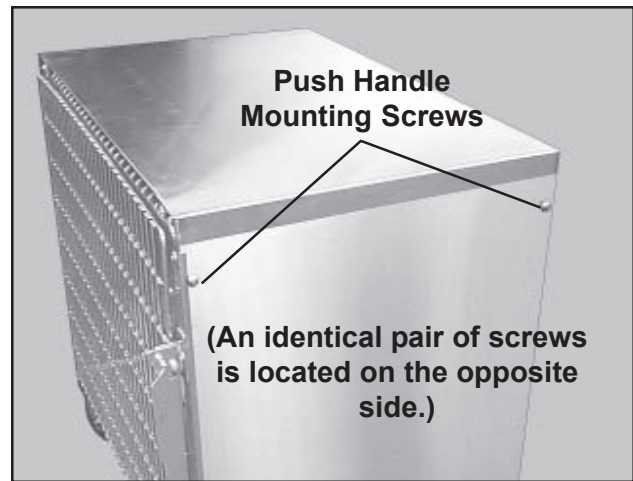

Figure 2. Push Handle Mounting Screws
3. With a Phillips screwdriver, remove the two screws on the end of the cage on which you want to mount the handle (Figure 2). **Note:** The push handle can be mounted on either end of the cage.